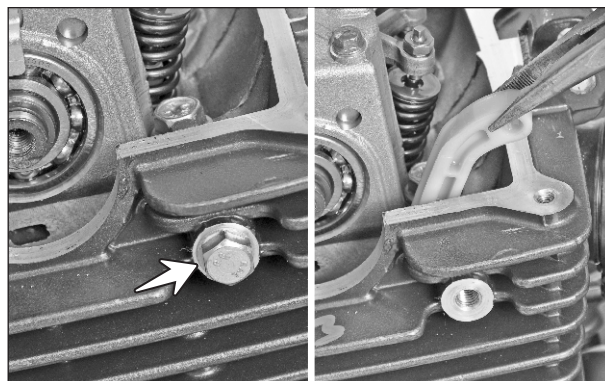

Fig. 3.40
- Take out the cam chain tensioner by removing the bolt cam chain tensioner along with washer cam chain tensioner. (Fig. 3.40)